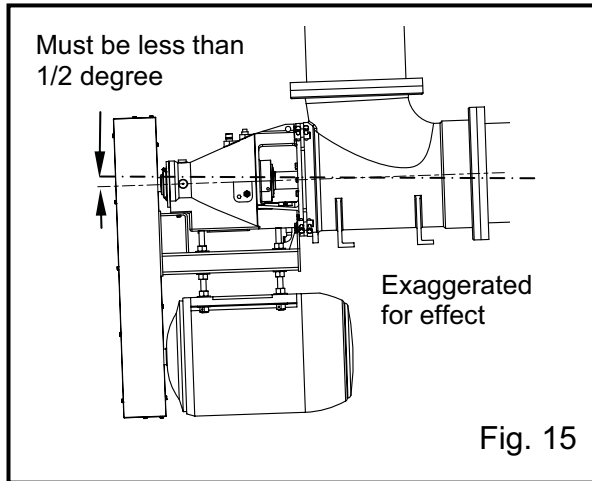

Fig. 15
4. Check pump for level. Pump should be less than 1/2 degree (0.1"/ft) from horizontal so bearings are not starved of oil (see Fig.15). Be sure thermal expansion does not cause this angle to be exceeded.